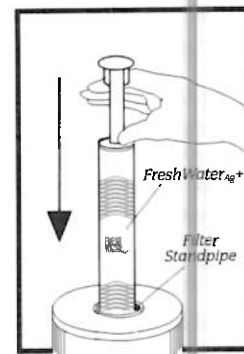

Figure 2
9. Carefully insert the FreshWater_{Ag⁺} cartridge into the standpipe as shown in Figure 2.
13. Balance the Total Alkalinity (TA), Calcium Hardness (CH), and pH level according to the water maintenance program included in your spa Owner's Manual.